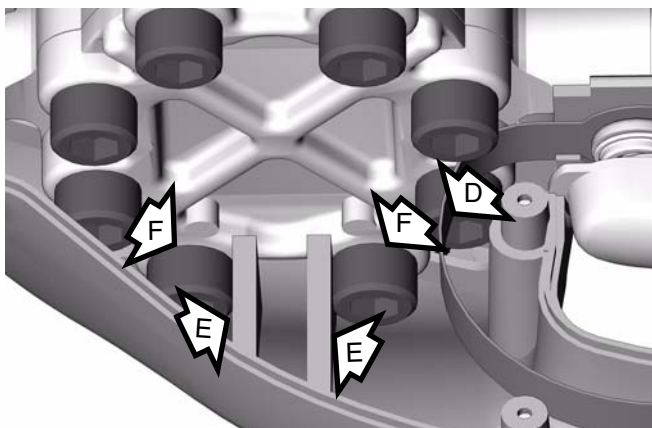
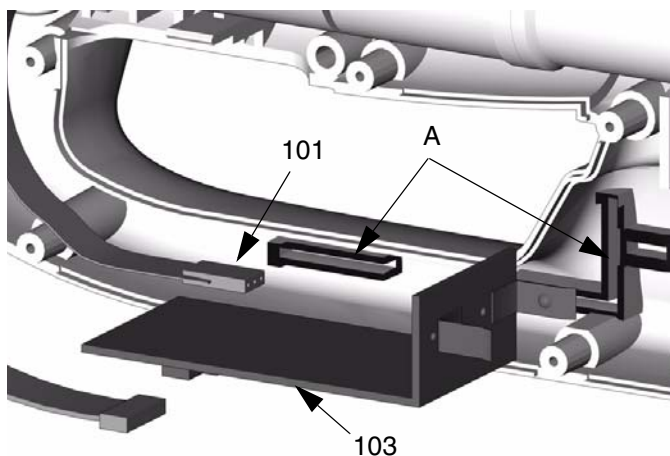

FIG. 34
FIG. 35
8. Place the new right cover (18) along side of the meter.
10. Remove the RF Board (103) from the right meter housing (18) and disconnect the PSM switch (101) by pulling the cable from the RF Board (103). See FIG. 35.
11. Plug connector end of the new PSM switch (101) into the new RF Board (103) connector.
12. Transfer all remaining parts from the old meter cover half (18) to the new meter cover half (18). Discard the old meter cover halves (18) and (19).
13.  The two ribs (E) of the new meter cover fit between the two bolts (F) of the meter housing. Be sure not to pinch or crimp the circular switch cable (D) on the new cover half. See FIG. 34.
14. Insert the RF Board (103) into the new right meter half (18). See FIG. 35.
Ensure that the RF Board (103) is positioned securely in the slots (A) of the new right meter half (18). See FIG. 35.